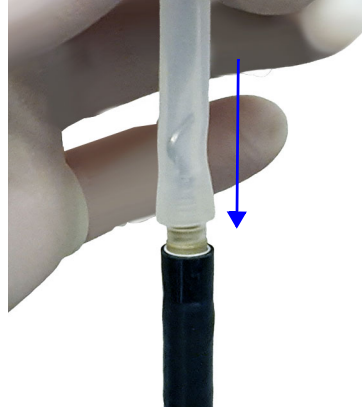

Figure 6.7 Reapply the installation tool
1. If desired, stabilize the instrument joints and reapply the installation tool onto the plastic component of the monopolar cautery tip (Figure 6.7).